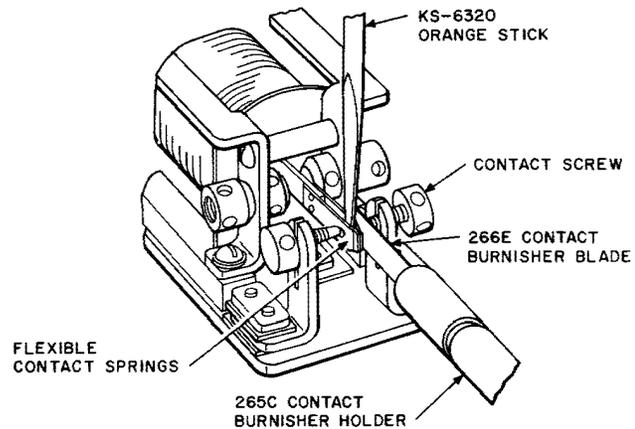

Fig. 39—Method of Burnishing Contacts on 206-, 209-, 215-, 231-, 239-, 255-, and 280-Type Relays
Contacts: Examine the contacts to determine whether filing is necessary on both armature and stationary contacts or on only one or the other. If both contacts require filing, insert the KS-2662 or KS-2663 file horizontally between the armature and the stationary contact as shown for the burnisher in Fig. 39. Place the flattened point of the KS-6320 orange stick between the flexible contact springs and hold the spring against the file so the file is held between the armature and the associated contact screw. File both contacts in this manner until the pits and buildups are entirely removed from both the contacts. While filing, take care to hold the file parallel to the armature. Take care not to remove contact metal unnecessarily. If, after the pit has been removed from one contact, the other contact requires additional filing or if only one contact is to be reconditioned, file this contact separately. In the case of armature contacts, use the orange stick as a stop. After the pits or buildups have been removed from both contacts, burnish the contacts as described in 6.02 and then clean them by the brush, wiping, or spray methods as covered in Part 4. Do not in any case attempt to produce a rounded surface on the stationary contacts.
6.02 Burnishing Contacts: Insert a clean 266E blade (see 3.01) in the 265C contact burnisher holder with the wide end outward. Insert the blade horizontally between the armature and the stationary contacts as shown in Fig. 39. Place the flattened end of the KS-6320 orange stick between the flexible contact springs and hold the flexible contact spring against the burnisher, as shown in the figure. Burnish the contacts by moving the burnisher back and forth. While burnishing, take care to hold the burnisher parallel to the armature.